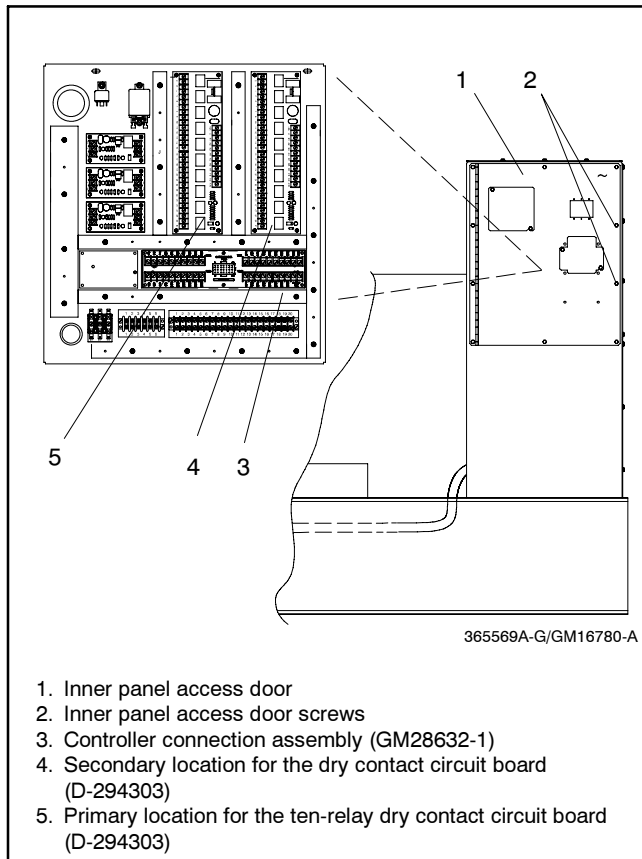

Figure 4 Junction Box Terminal Block Bracket Mounting (450-2000 kW)
- 2.3.3 Attach the controller connection assembly (GM28632-1) to the junction box bracket studs using six spacers (X-712-9) and nuts (X-70-12). Place the spacers between the controller connection assembly and the mounting bracket. See Figure 4 for the mounting location.
- 4.3.1 Mount the ten-relay dry contact circuit board (D-294303) on the junction box bracket studs using six spacers (X-712-9) and nuts (X-70-12). Choose the primary location when available. Place the spacers between the ten-relay dry contact circuit board and the mounting bracket. See Figure 4 for the mounting location.